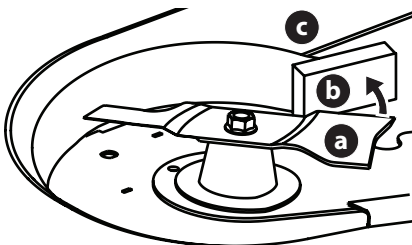

Fig. 43
- Wrap a rag around one end of the blade (a) and grasp it to prevent it from turning, or secure the blade (a) by placing a block of wood (b) between the blade (a) and the deck housing (c) (Fig. 43).